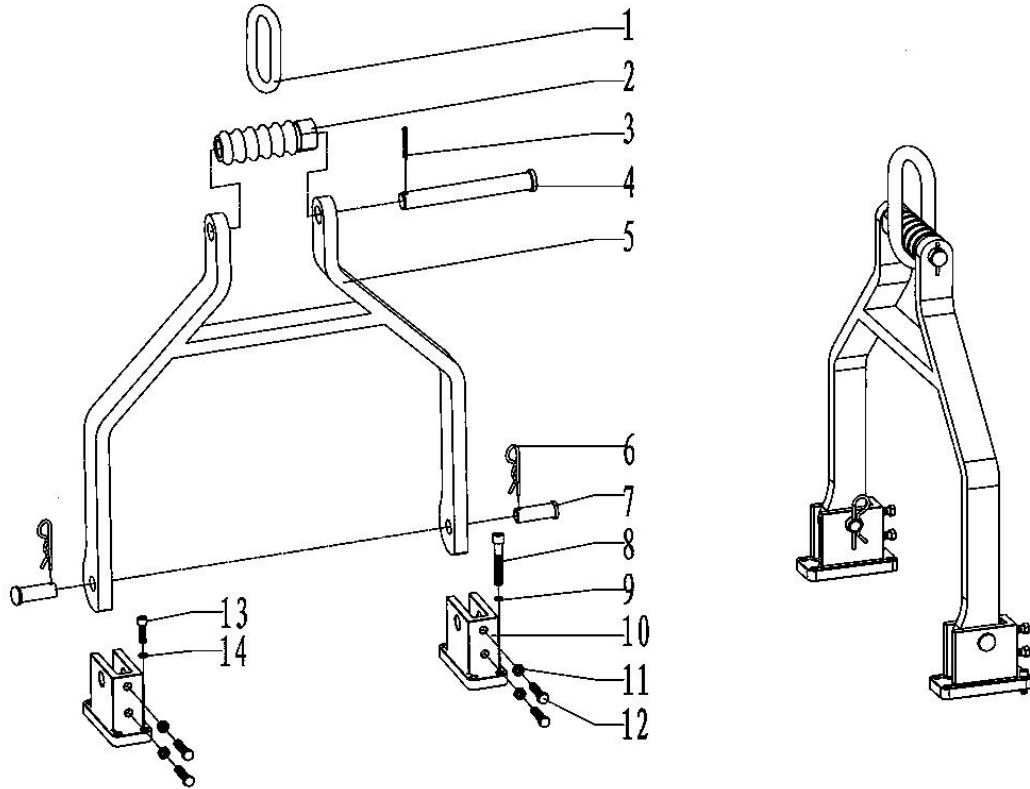

Fig. 20
7.1.13 Suspending rod assembly (Fig. 20, Table. 15)